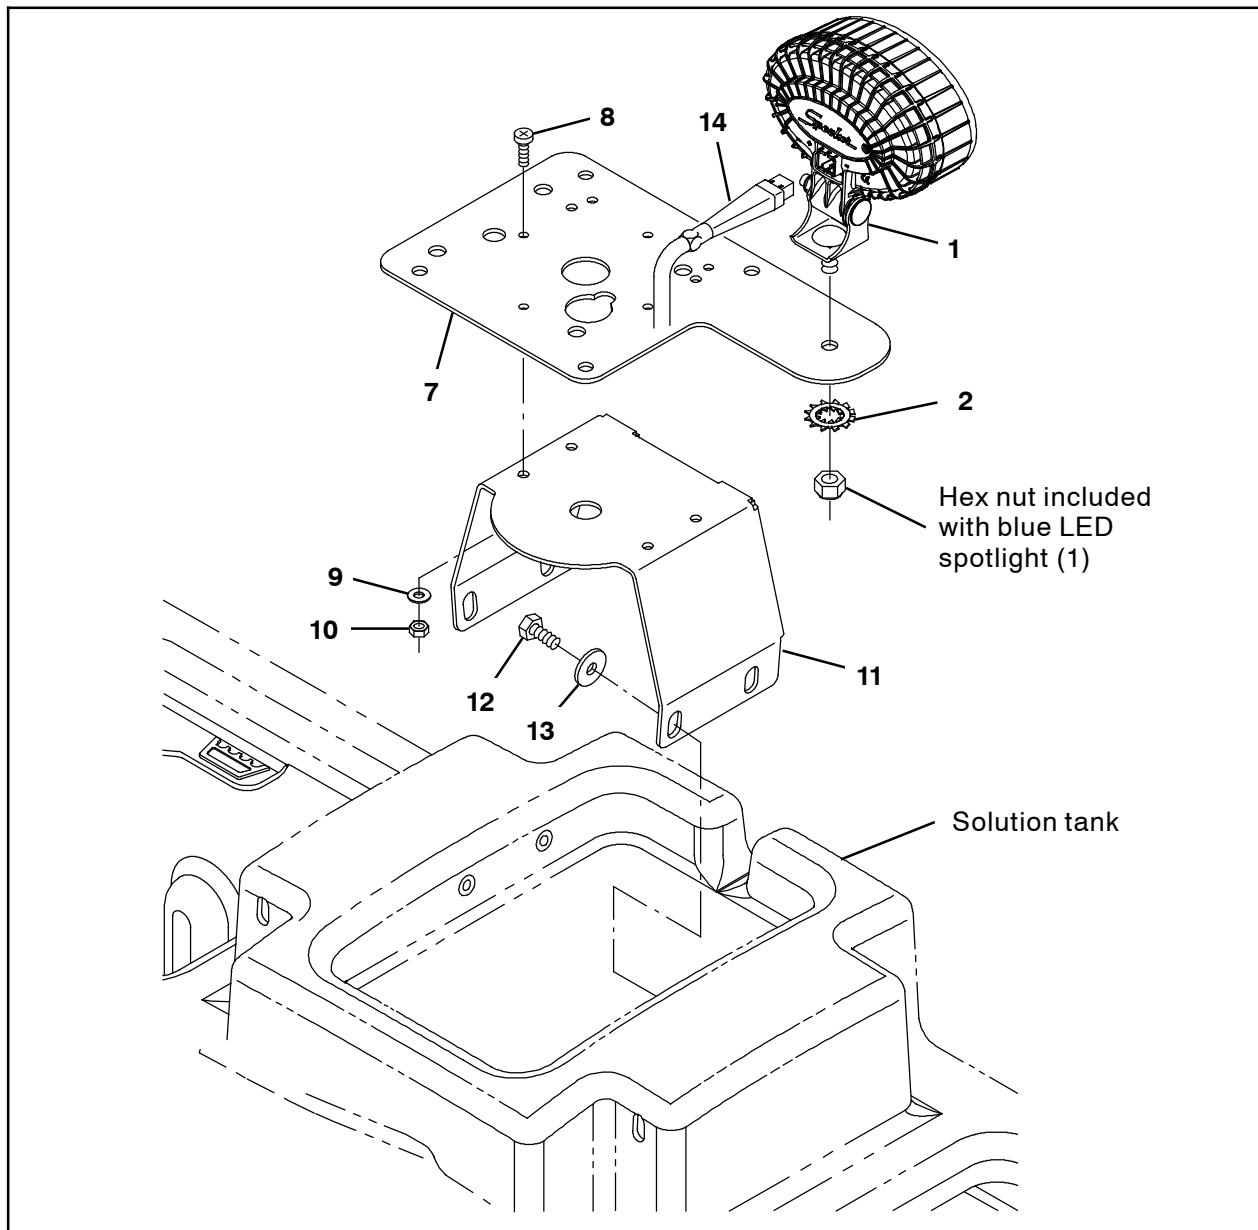

FIG. 9
Use four M8 hex screws (12) and four flat washers (13) to install the revolving light support bracket (11) onto the recovery tank. (Fig. 9)
11. Machines equipped with optional strobe light: Disconnect the wire harness from the strobe light and remove the strobe light from the bracket. Set the strobe light aside. (Fig. 9)
12. Use four M5 pan screws (8), four flat washers (9), and four M5 hex nuts (10) to install the blue spotlight mounting bracket (7) onto the revolving light support bracket (11). (Fig. 9)
13. Machines equipped with optional strobe light: Install the strobe light onto the blue spotlight mounting bracket (7) and reconnect the wire harness to the strobe light. (Fig. 9)
14. Remove the hex nut included with the blue LED spotlight (1) from the light. (Fig. 9)
15. Use the hex nut removed from the blue LED spotlight (1) in the previous step and a lock washer (2) to install the blue LED spotlight onto the blue spotlight mounting bracket (7). (Fig. 9)